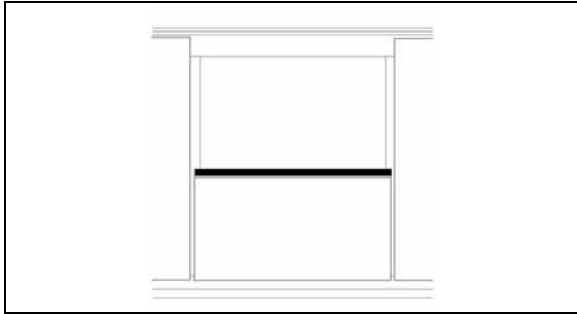

FIGURE 58 : HALF-WINDOW INSTALLATION – SIKA AKTIVATOR
6. **HALF-WINDOW ONLY:** clean the sliding or awning window frame with anti-silicone and then, apply Sika Aktivator as shown on FIGURE 58;